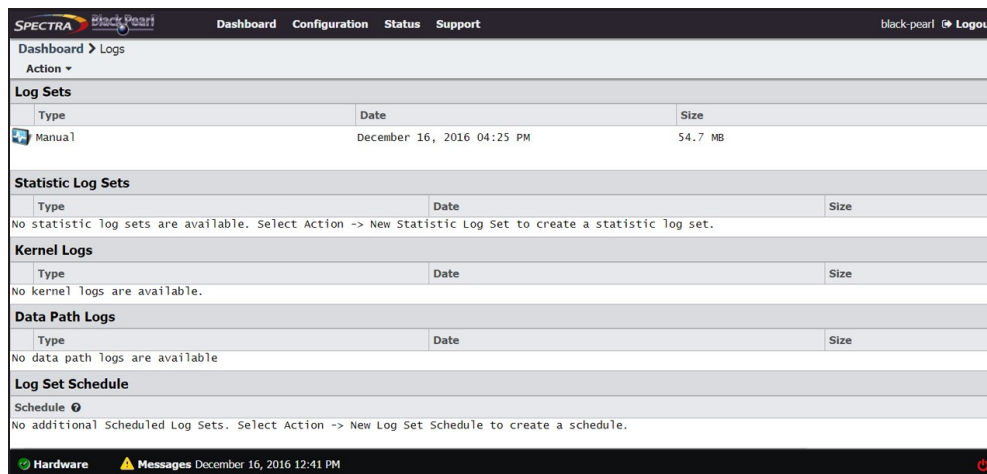

Figure 311 The Logs screen.
1. From the menu bar, select **Support > Logs**. The Logs screen displays (see Figure 311).
1. From the menu bar, select **Support > Logs**. The Logs screen displays (see Figure 311 on page 394).